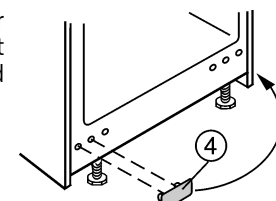

Fig. 4
- ▶ Remove the cover Fig. 4 (4) and use it to close the vacated fastening holes.